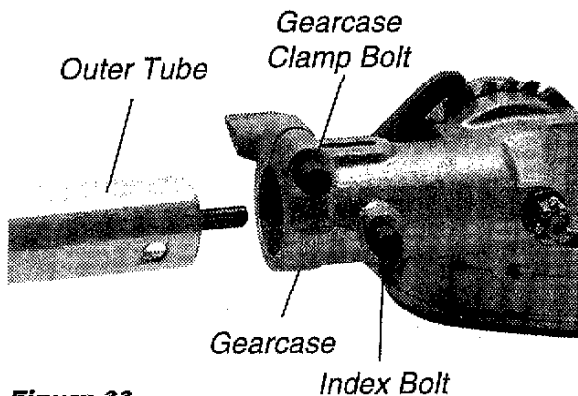

Figure 33
- **Lubricate the gearcase.** To perform this operation, first remove the gearcase from the outer tube as follows (Figure 33.):